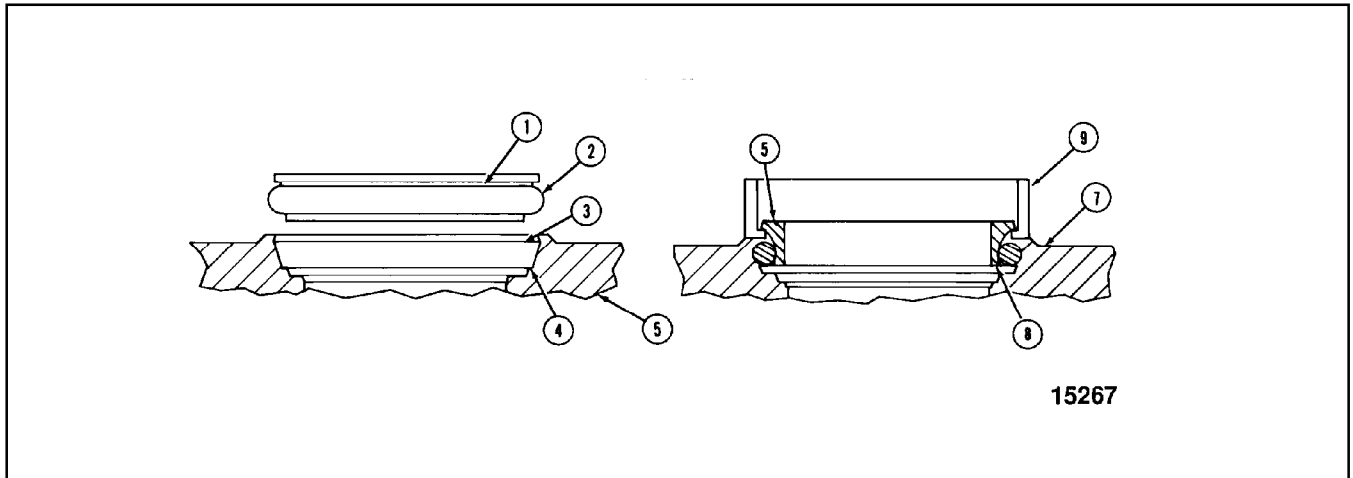

Figure 3
9. Remove two bolts (6), hardened washers (7) and retainer (8) from housing (13) after shim pack value is determined.
10. Coat O.D. of oil seal (10) with Permatex #2 or equivalent. Press oil seal into bearing retainer (8).
11. Position shim pack (9) (Determined in Step ?) and wheel bearing retainer (8) on tandem housing (13). Install six hardened washers (7) and bolts (6). Torque bolts to 70 lbf ft (9.7 kg•m).
12. Install pipe adapter (29), reducer bushing (28) and breather (29) in each tandem case weldment (31). Coat threads of pipe adapter engaging tandem case weldment with Loctite Grade 592.
Remove any oil film, dust or other foreign matter from the toric rubber rings (2, Figure 3), and from the tramps (4 and 7) and lips (3 and 8) of both the rings (1) and housings (6). Use tri-chloroethane, and clean cloth or paper towels for wiping.